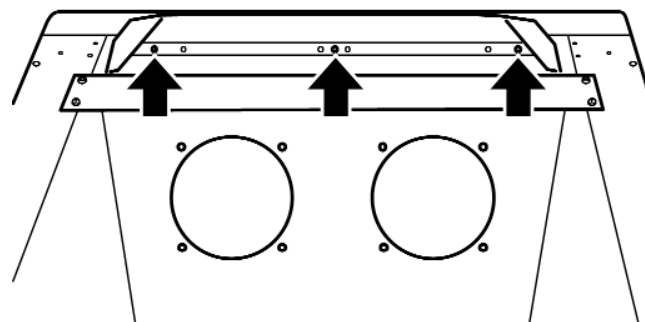

Figure 15. Fitting outlet baffle (The outlet baffle design may differ from that shown)
6. The **Adorn, Visage, Eternal, Decadent, Obsession** and **Dream** models have an outlet baffle supplied with the appliance fascia. Fit this to the convected air outlet of the appliance using the three self tapping screws supplied with the fascia (See figure 15).
The **Icon** model has a heat baffle supplied with the appliance fascia. Fit this to the convected air outlet of the appliance using the three self tapping screws supplied with the fascia (See figure 15).